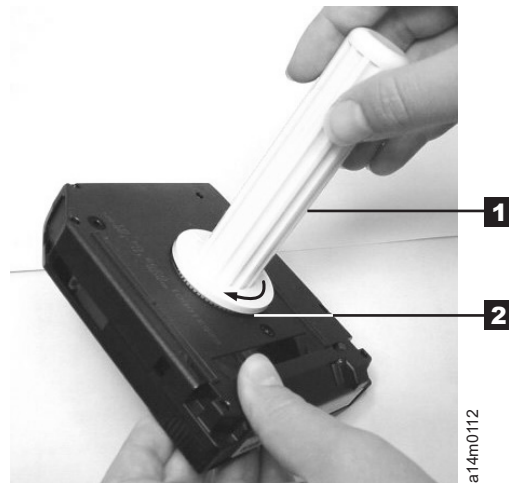

Figure 52. Rewinding the tape into the cartridge
5. To rewind the tape, insert the cartridge manual rewind tool (see **1** in Figure 52) into the cartridge's hub **2** and turn it clockwise until the tape becomes taut.